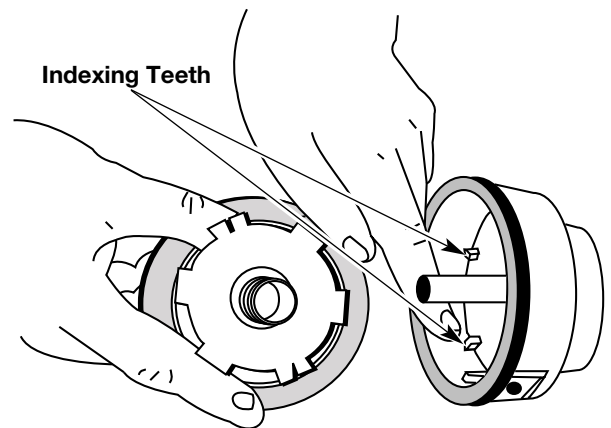

Fig. 24
5. Check the indexing teeth on the innerreel and outer spool for wear (Fig. 24). If necessary, remove burrs or replace the reel and spool.